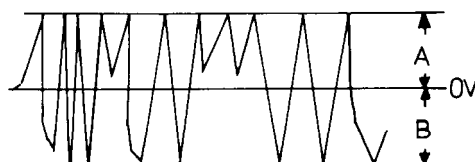

Figure 9
- Adjust SFR01, let the waveform shown as A=B. (See Fig. 9)